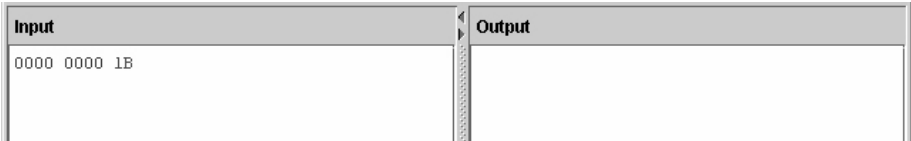

Figure 155. Hex Entry Mode
39. Type 1B. To enter the hex equivalent of <ESC>. See Figure 155.